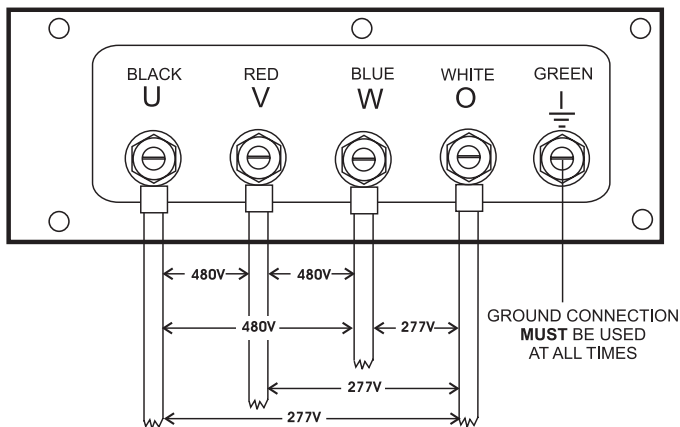

Figure 27. UVWO Terminal Lugs 240/139V Three Phase Connections
2. Connect the load wires to the UVWO terminals as shown in Figure 27.